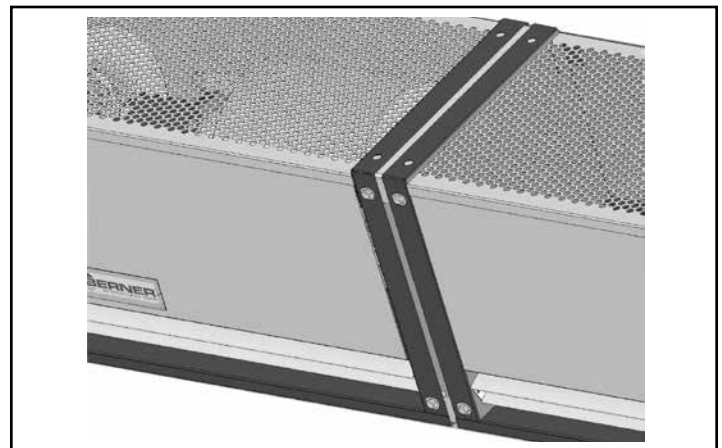

FIGURE 9 - Tandem Mounting
- D. Slide the end plate of the next unit over the brackets installed in Step C and attach using (4) additional $\frac{1}{2}$ " bolts as shown in Figure 9.